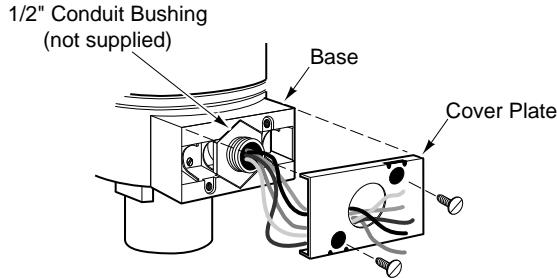
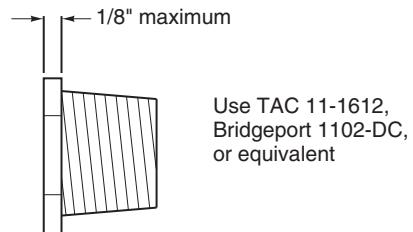

Figure-11 Conduit Bushing and Cover Plate Installation.
Figure-12 1/2" Conduit Bushing.
- Slip the leads through a standard 1/2" conduit bushing (not supplied) and the knockout hole in the cover plate. Refer to Figure-11 and Figure-12 .
**Note:** As shown in Figure-11 , the hole in the cover plate of the actuator conduit housing is sized to accept both British standard M20 (20 mm) conduit connectors and 20 mm-to-PG16 adaptors for use with DIN PG16 connectors. (Follow the steps for installing the conduit box to the actuator.)